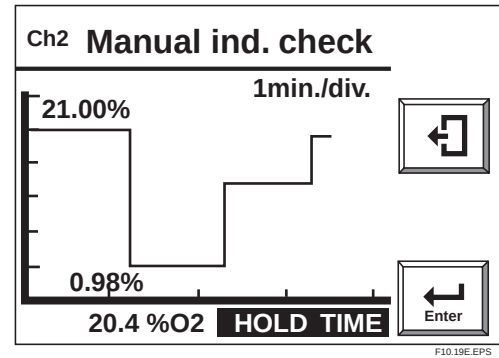

Fig. 10.19 Hold Time
- 18) Select [End]. An oxygen concentration graph (Figure 10.19) is displayed and hold time begins. After the preset time has elapsed then the display reverts to channel select. If you touch the Enter key during hold time then hold time is skipped.